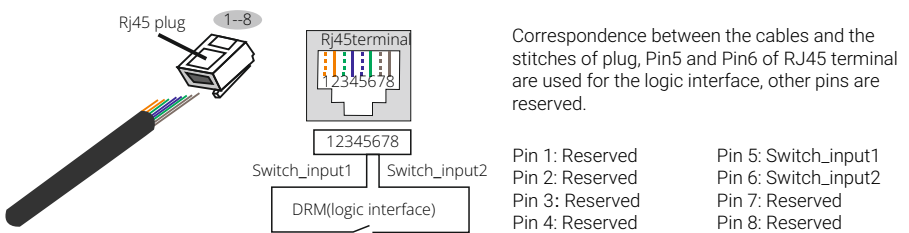

Figure 5.31 Strip the insulation layer and connect to RJ45 plug
2. Use the network wire stripper to strip the insulation layer of the communication cable. According to the standard line sequence of figure 5.31, connect the wire to the plug of RJ45. Then use a network cable crimping tool to make it tight.